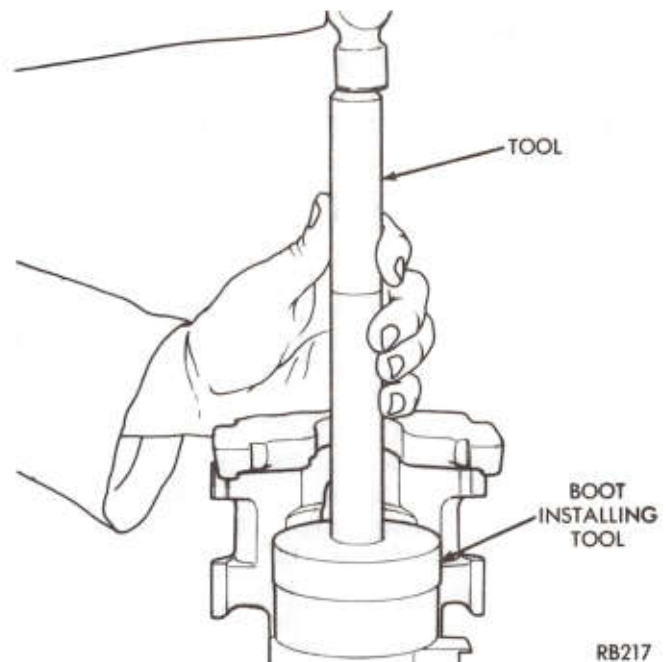

Fig. 16—Installing Piston Boot
- (6) Position the dust boot in the counterbore. Using a hammer and Tool C-4690 with handle C-4171, drive the boot onto the counterbore (Fig. 16).